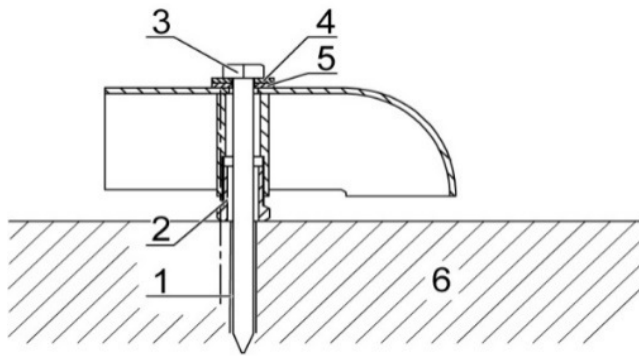

Figure 9 Fixing elements.
- ⇒ Loosely pre-assemble the CHM 8k on the concrete foundation with the supplied washers and fixing screws (see Figure 9).